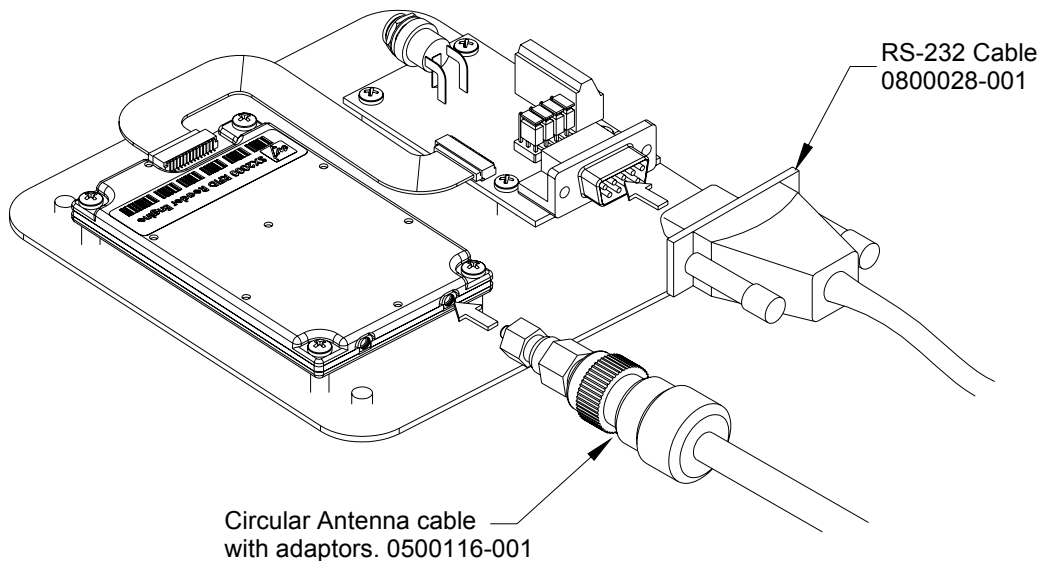

Figure 2.
STEP 2: Plug the Circular Antenna into the OEM Reader Engine and the RS-232 Cable into the OEM Interface Board as shown in figure 2.